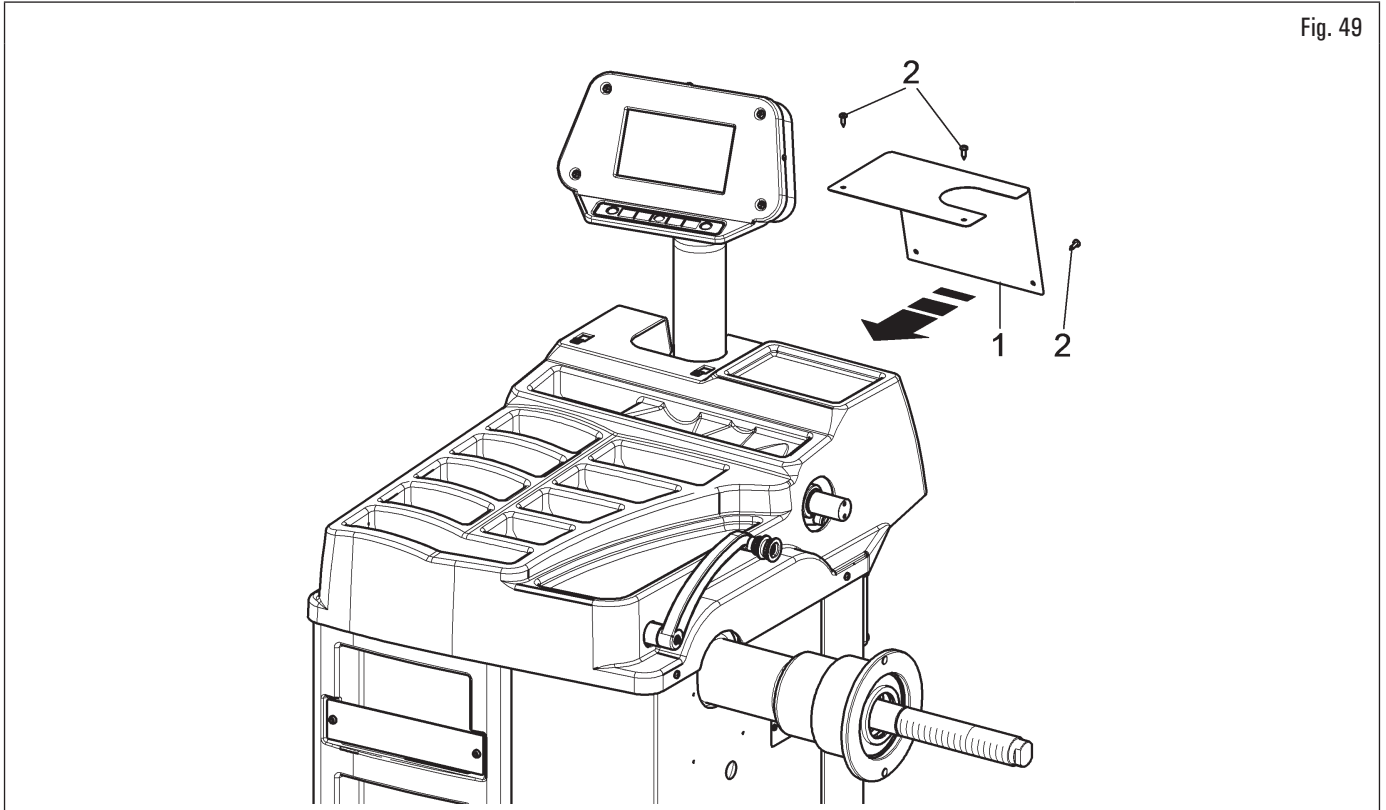

Fig. 49
3. reassemble the plate (Fig. 49 ref. 1), previously removed, with the bolts (Fig. 49 ref. 2), supplied.